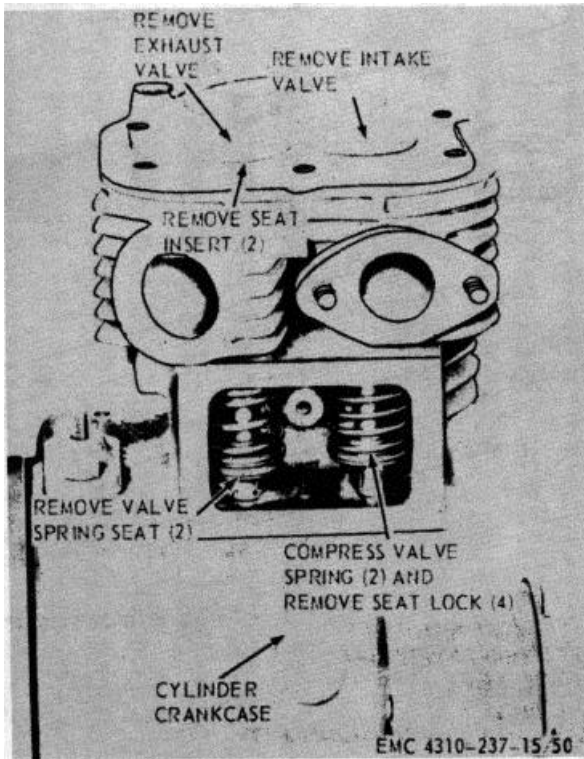
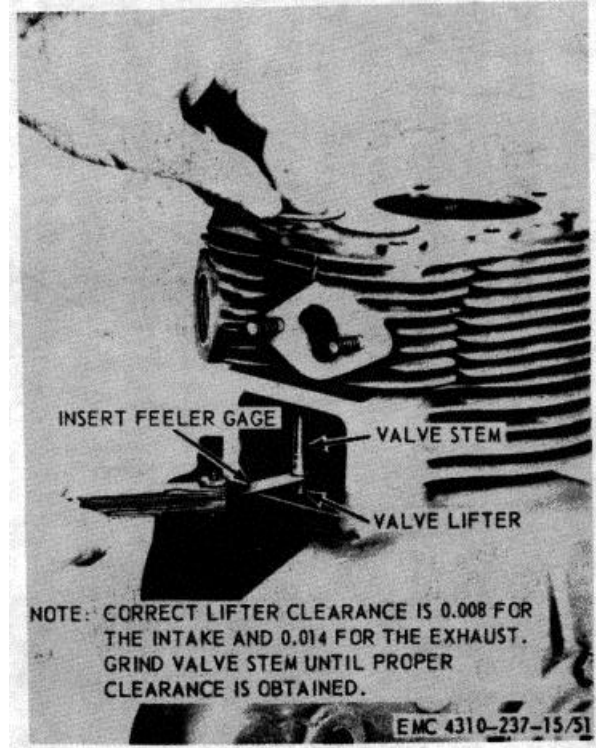

Figure 5-5. Intake and exhaust valve, removal and installation
Figure 5-6. Valve adjustment
- (1) Remove the cylinder head (para 3-49).
- (2) Remove the valve inspection plate (para 3-44).
(3) Refer to figure 5-5 and remove the intake and exhaust valves.
- (1) Refer to figure 5-5 and install the valves.
- (2) Install the valve inspection plate (para 3-44).
- (3) Install the cylinder head (para 3-49).
d. Valve Adjustment. Refer to figure 5-6 and adjust the valves.